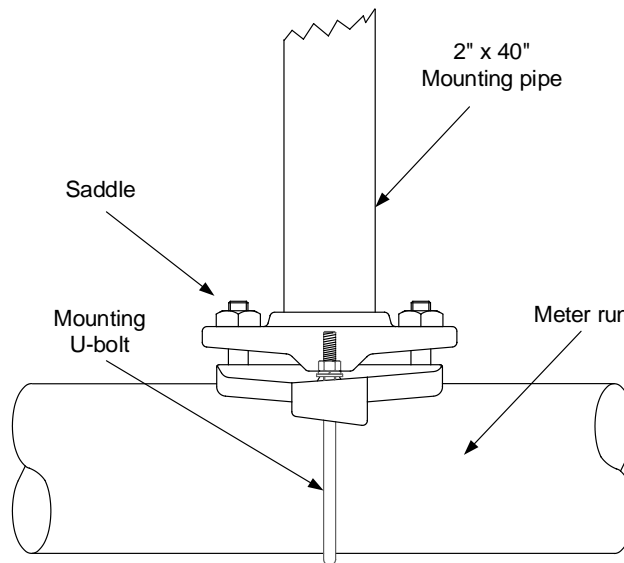

Figure 15: Pipe saddle assembly
2. Position the pipe saddle on the meter run (Figure 15).